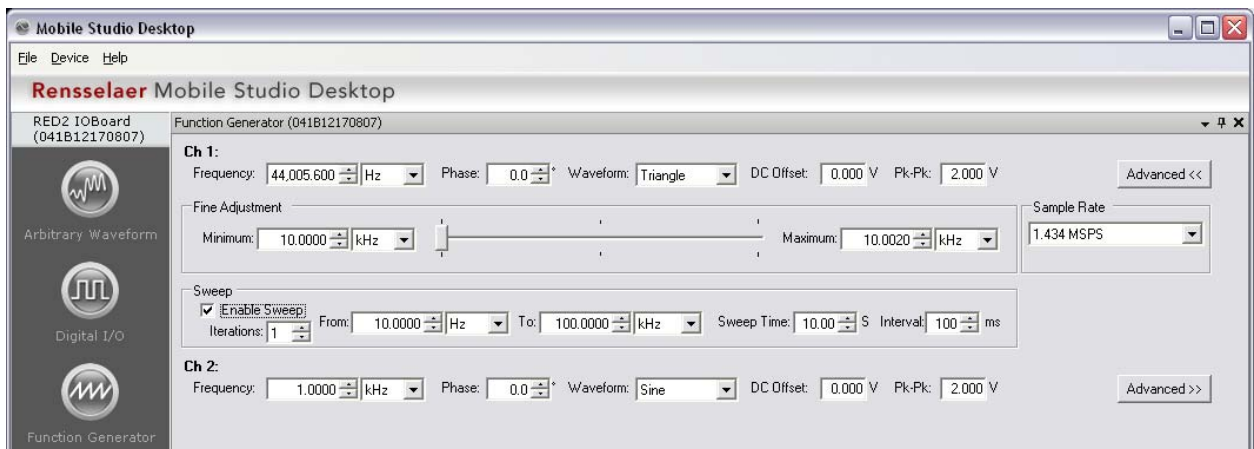

Figure 1.2: Advanced Function Generator Settings
- 3) By selecting “Advanced” on the right next to either channel, further settings can be altered as shown in Figure 1.2 and mentioned below.